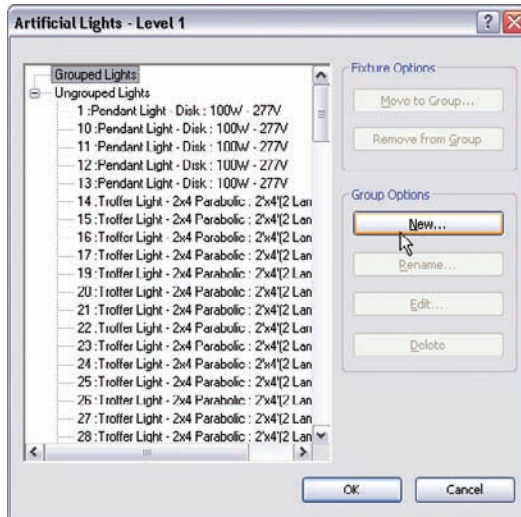

FIGURE 19.11 Creating a new group
3. In the Artificial Lights - Level 1 dialog, click the New button in the Group Options area, as shown in Figure 19.11.